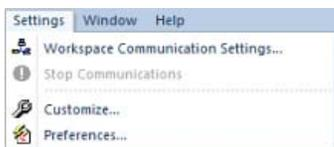

FIG. 3 NetLinX Studio menu bar - Settings > Workspace Communication Settings
1. Launch NetLinX Studio and select **Settings > Workspace Communication Settings** (FIG. 3):